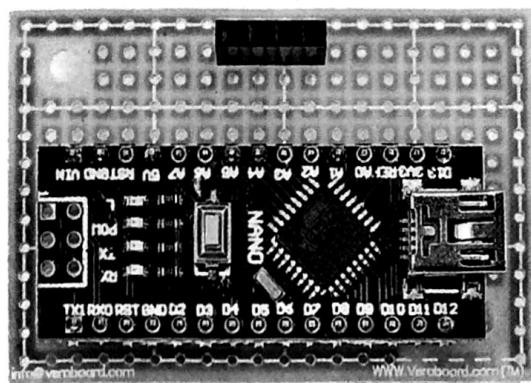

Figure 4 — The Arduino Nano and OLED header are mounted on a PC board.
Because of the low parts count, we used a small 2 × 1.35 inch piece of prototype 0.1-inch pitch perforated circuit (PC) board to hold the circuitry. Figure 4 shows the Nano positioned on the PC board. The four-pin header at the top of Figure 4 is where the four pins of the OLED are plugged into the board. Also note that the Nano has a mini USB connector
In Figure 4 of the September 2018 Product Review of the Goal Zero Yeti 400 Lithium Portable Power Station (pp. 40 – 42), the label for the vertical axis should read “Voltage Divided by 10.” The plot shows –200 to +200 V. (Thanks Ted Cohen, N4XX)